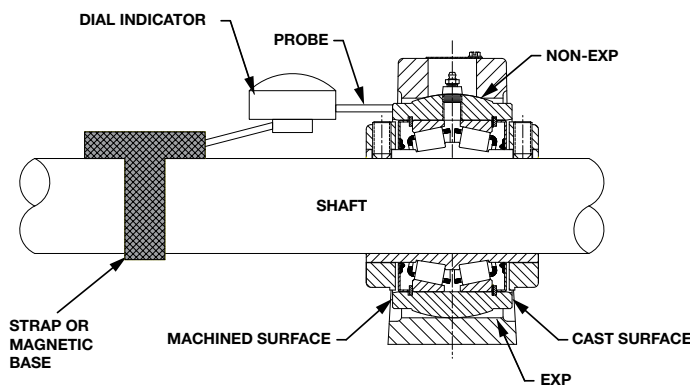

Figure 1 – Mounting Diagram
6. Mount a dial indicator on the shaft near the non-expansion (fixed) bearing. Place the indicator probe so that it contacts the machined surface of the S-1 Unit Housing perpendicular to that surface. See Figure 1. Note that only one face of the S-1 unit is machined.